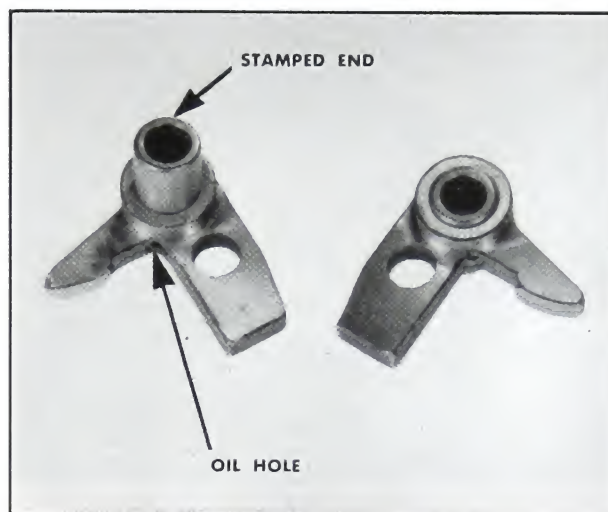

Fig. 5-212. Oil holes in maximum speed governor weight
3. To replace needle bearing, press out the old bearing and press in a new one with ST-337 mandrel until it protrudes an equal distance on each side of the weight. Be sure the oil hole in the bearing lines up with the oil hole in the high-speed weight. Fig. 5-212. Always use extreme pressure lubricant and press against the stamped end of the needle bearing.